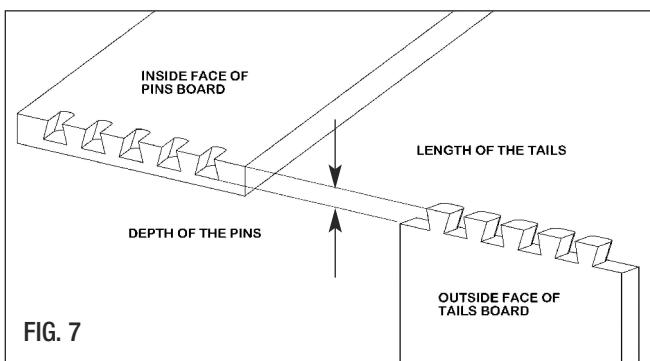

FIG. 7
3. FIG. 7 shows the dimension of the dovetail joint affected by the cutter height.
- When cutting a half-blind dovetail joint, using the included dovetail cutter, start with a bit height setting equal to the depth of the joint you desire. (FIG. 7)